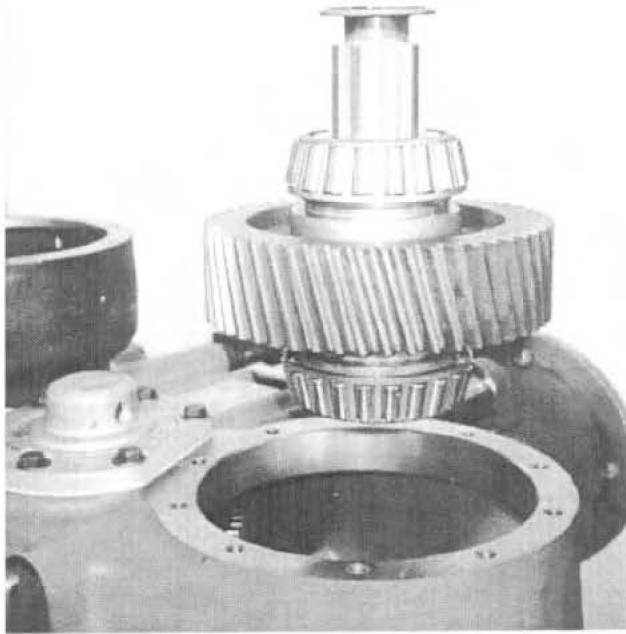

Fig. 24
24. Remove the upper input shaft assembly from the transfer case housing. To prevent damage, store the upper input shaft in a secure area. See Fig. 24.